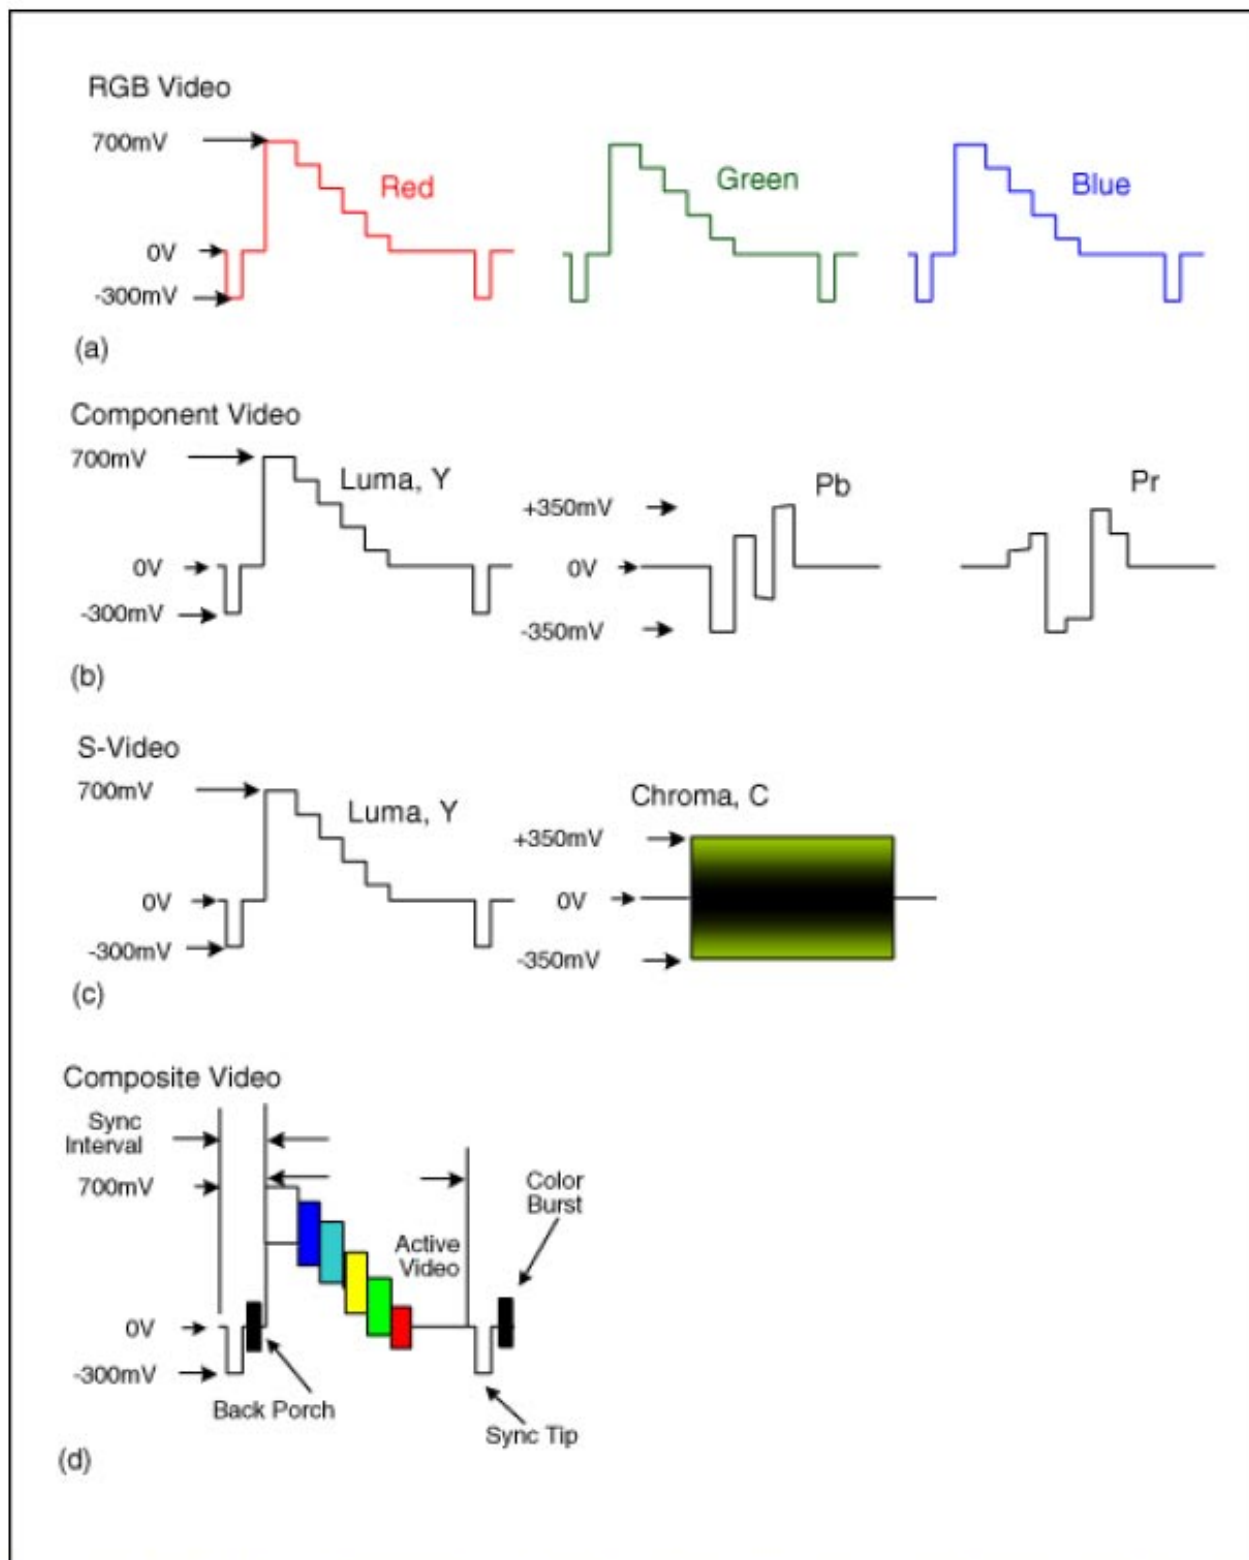

Figure 2. These RGB (a), Component (b), S-Video (c), and Composite (d) Video Signals show the Sync interval, Active video, Sync Tip, and Back Porch.
The video signals you will likely encounter are shown in Figure 2, with the standard amplitudes found in video interfaces (see EIA 770-1, 2, and 3). Chroma in S-Video, and Pb and Pr in component video, resemble the sine wave varying around a reference point, as noted above. Luma (Y), composite, and RGB only vary in a positive direction from 0V (called the "black" or "blank" level) to +700mV. This is due to a tacit agreement within the industry and not to any standard. Note that they all are complex waveforms with a sync interval that may or may not be defined or even used. For example, Figure 2 shows RGB with sync as used in NTSC and PAL formats. In PC (graphics) applications, the sync is a separate signal, and RGB doesn't have it attached. In single-supply applications, such as a DAC output, the quiescent levels could be different during the sync interval. This will influence the choice of bias method. For example, if the quiescent level of chroma isn't 0V during the sync interval in a dual-supply application, it will be more pulse-like than sinusoidal.